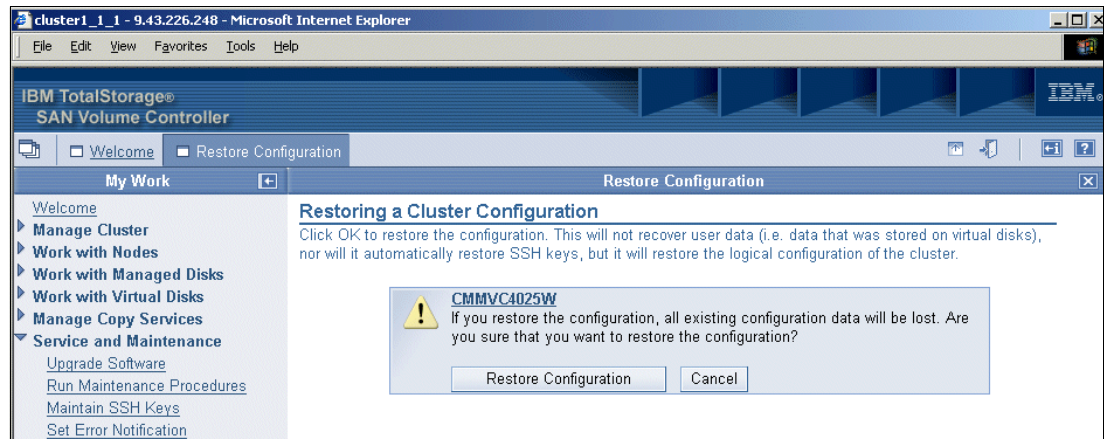

Figure 9-102 Confirming the configuration restore operation
3. Click the **Restore Configuration** button to confirm the restore operation. See Figure 9-102.